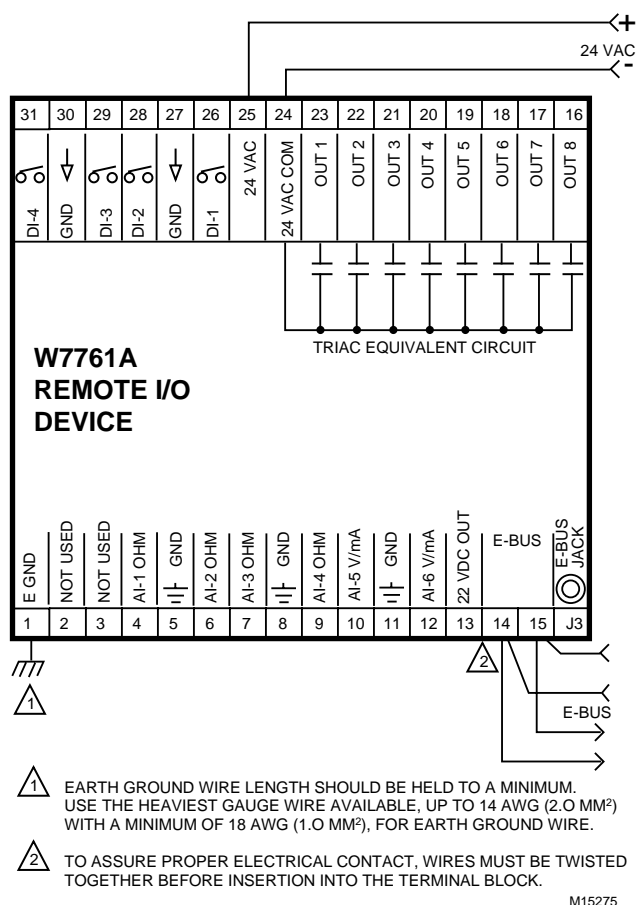

Fig. 9. W7761A device wiring diagram. (For note 2, refer to Fig. 8.)
- Keep the earth ground connection (terminal 1) wire run as short as possible. Refer to Fig. 9 through 13.
- Do *not* connect the analog or digital ground terminals (5, 8, 11, 27 and 30) to earth ground. Refer to Fig. 9 through 13.
The W7761A Device has the terminal arrangement shown in Fig. 9 through 13. Connection for operator access to the E-Bus is provided by plugging the Serial LonTalk® Adapter (SLTA) connector into the E-Bus jack.